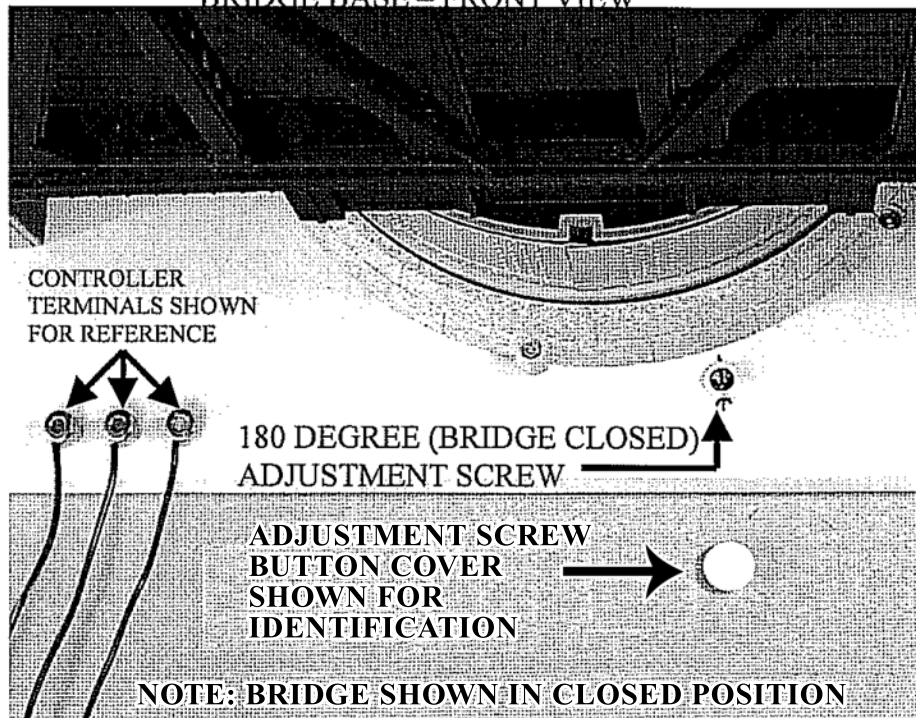

FIG. 2 180 DEGREE (BRIDGE CLOSED) ADJUSTMENT SCREW LOCATION
1. Rotate the 180-degree adjustment screw (see fig. 2) **counter-clockwise** (a small fraction of a turn).